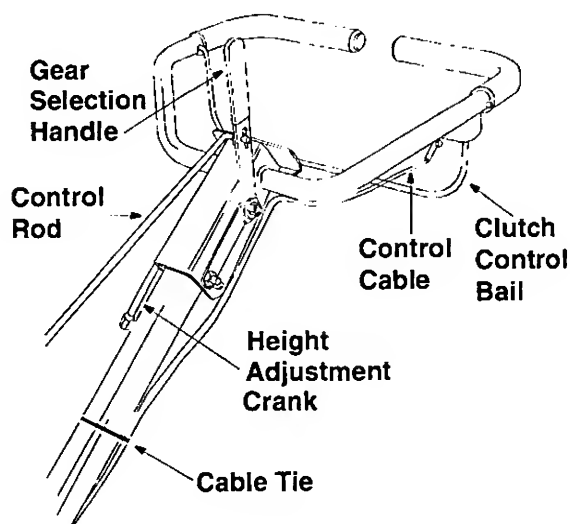

Figure 8
Secure drive cable to handle using cable tie. Refer to Figure 8. Cut off excess end of cable tie.
3. Insert the remaining end of the control rod through the hole in the gear selector handle and secure with hairpin clip. See Figure 8.
The gear selection handle is located in the center of the handle on the tiller. It is used to select **NEUTRAL**, **REVERSE**, or one of the **FORWARD** modes (see below). Pull or push the handle so that the indicator on top of shift cover points to the operating mode desired. See Figure 8.
The clutch control bail is located below the handle. See Figure 8. Lifting the clutch control bail against the handle engages the wheel and tine drive mechanisms.
## HANDLE ADJUSTMENT (See Figure 8)